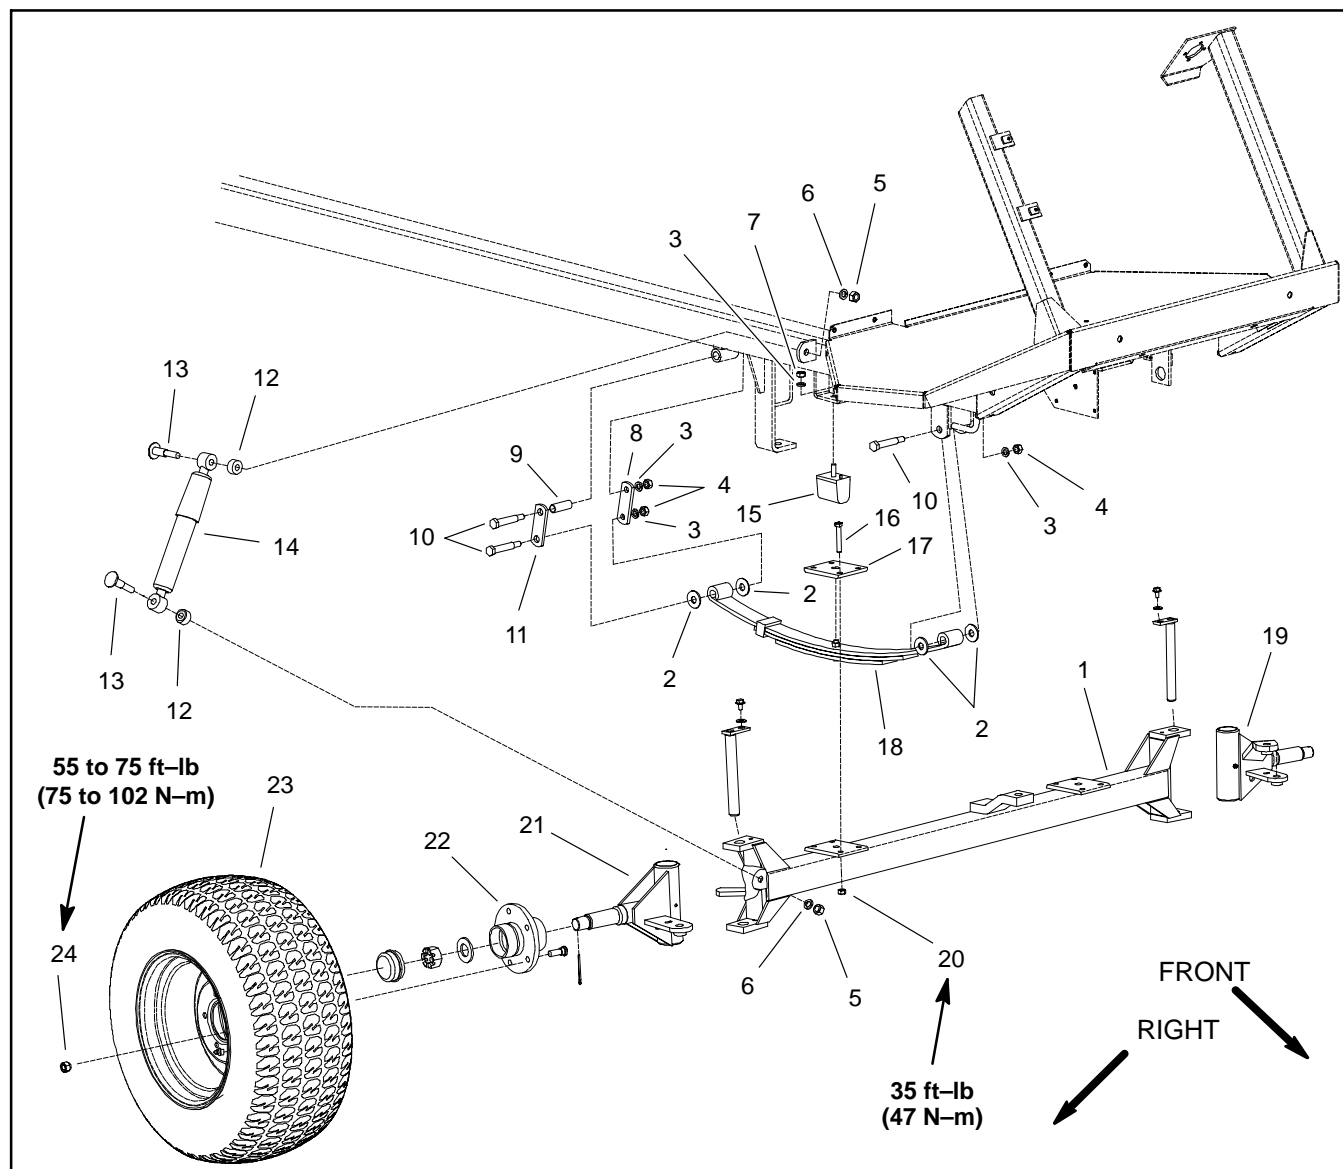

Figure 5
Disassembly (Fig. 5)
4. Disassemble front suspension as needed using Figure 5 as a guide.
Assembly (Fig. 5)
1. Assemble front suspension using Figure 5 as a guide.